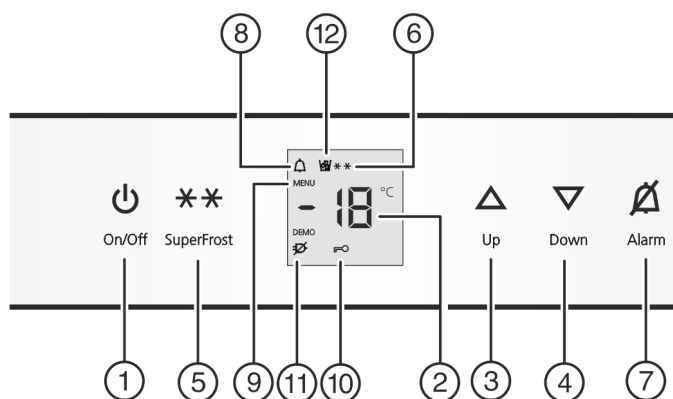

Fig. 2
- Press On/Off button Fig. 2 (1).
- To activate the setting mode: press SuperFrost button Fig. 2 (5) for about 5 s.
- ▷ The menu symbol Fig. 2 (9) shines.
- Briefly press the SuperFrost button Fig. 2 (5) to confirm.
- To activate the child lock, briefly press the SuperFrost button Fig. 2 (5).
- ▷ The child lock symbol Fig. 2 (10) shines. **c** flashes in the display.
- to deactivate the child lock, briefly press the SuperFrost button Fig. 2 (5).
- ▷ The child lock symbol Fig. 2 (10) goes out. **c** flashes in the display.
- To deactivate the set-up mode: press On/Off button Fig. 2 (1).
- Press alarm button Fig. 2 (7).
The temperature display and the alarm symbol Fig. 2 (8) flash at the same time.
The audible alarm is automatically silenced, the alarm symbol *Fig. 2 (8)* goes out and the temperature display stops flashing when the temperature is sufficiently cold again.
- ▶ Press alarm button *Fig. 2 (7)*.
- ▶ To set the temperature higher: press Up button *Fig. 2 (3)*.
- ▶ To set the temperature lower: press Down button *Fig. 2 (4)*.